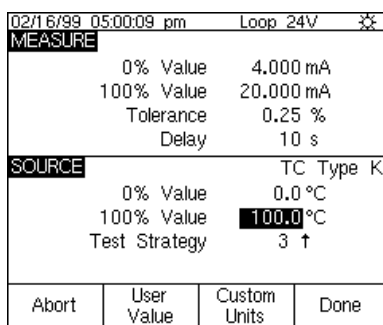

Figure 21
3. Press the **As Found** softkey and press **ENTER** to select **Instrument** calibration. Move the cursor to **Tolerance** and **ENTER** the appropriate test tolerance (0.25% in this example). Verify that the **0% Value** and **100% Value** are the proper, *nominal* operating values for the transmitter (0.0 °C and 100.0 °C in this example, Figure 21). If the Lower (0%) and Upper (100%) Range Values (LRV and URV) have been previously modified for calibration purposes, you will need to **ENTER** the nominal values. For example, if a previous calibration modified the URV to 100.2 °C, you need to manually **ENTER** the nominal value of 100.0 °C for the **100% Value**. Entering nominal zero and span values ensures that errors are calculated correctly.